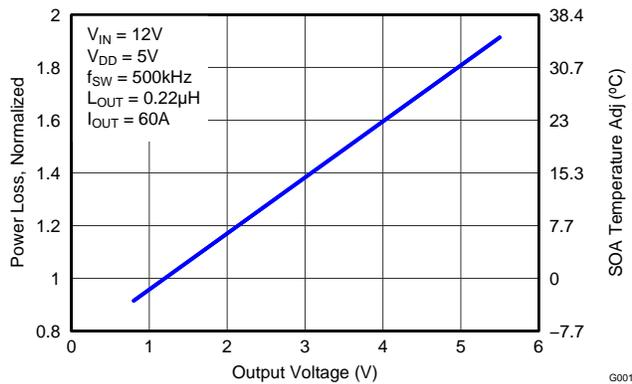

Figure 9. Normalized Power Loss vs Output Voltage
- Normalized Power Loss for output voltage \approx 1.06(Figure 9)
- SOA adjustment for output voltage $\approx -0.8^{\circ}\text{C}$ (Figure 9)